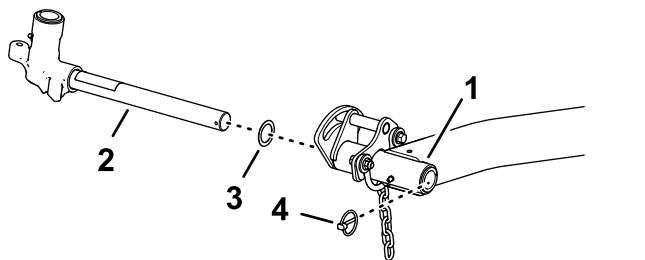

Figure 28
- Remove the lynch pin and washer securing the lift-arm pivot shaft to the lift arm and slide the lift-arm pivot shaft out of the lift arm (Figure 28).